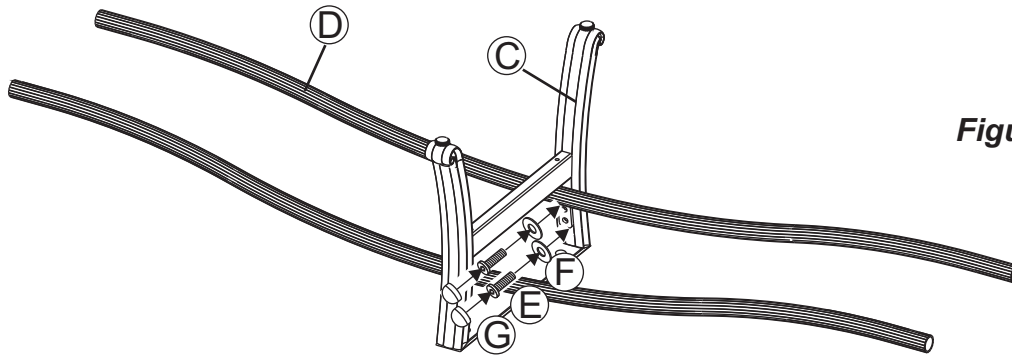

Figure 1
1 **Important: We recommend 2 people work together to assemble the chair.** Note the arrow labels on the "U" bar and the rocker assembly. Also note the horseshoe shape of the rocker plate. Point the open end of the horseshoe away from you. The arrows on the rocker assembly should be pointing towards you. Set the chair frame on the rocker assembly with front of the seat facing you and the arrows on the "U" bar pointing towards you as shown in **Figure 1**. This is very important for a safe, balanced rocking motion. **If chair frame has been properly positioned on the rocker assembly, all arrows on the "U" bar and rocker assembly will be pointing in the same direction.**
- 1 Attach a leg connector bar to the middle leg by using the bolts and washers as shown in **Figure 1**. Guide the bolts through the holes in the leg connector bar, into the pre-drilled holes in the middle leg. **Hand tighten only 2-3 turns**. Repeat for the other leg connector bar.
Place the table rim (without glass) upside down on a flat, non-abrasive surface. Attach a table leg to the table rim by using the bolt and washer as shown in **Fig.1**. Guide the bolt through the hole in the table leg, into the pre-drilled hole in the table rim. **Hand tighten only 2-3 turns**. Repeat for the other three legs.